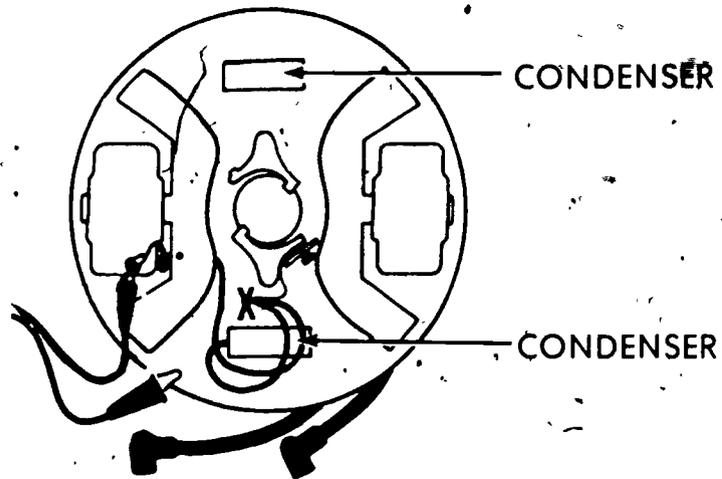

FIGURE 3
- a. Following instructions for tester, connect leads (Figure 3)